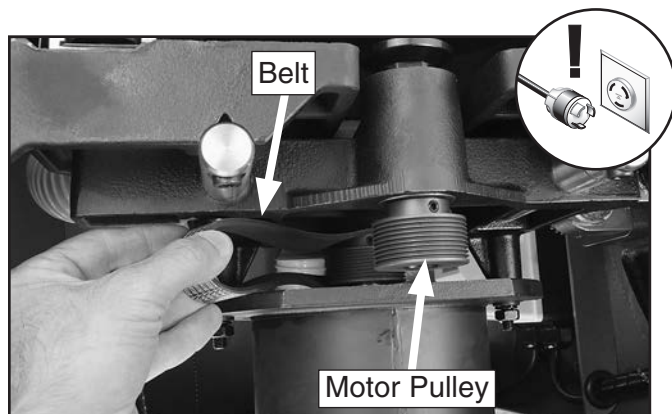

Figure 151. Removing belt (table removed for clarity).
7. Roll the belt off of the upper and lower pulleys, as shown in **Figure 151**. Be careful not to pinch your fingers.